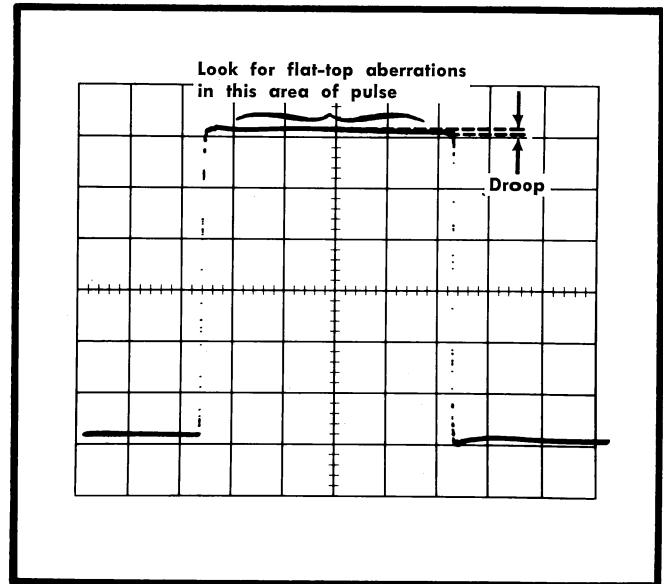

Fig. 6-20. Typical sampling-system display showing flat-top aberrations and droop.
c. Check—Sampling-system display for aberrations between the first 10 nanoseconds and last 15 nanoseconds of pulse 0.12 division or less (2% maximum; see Fig. 6-20).